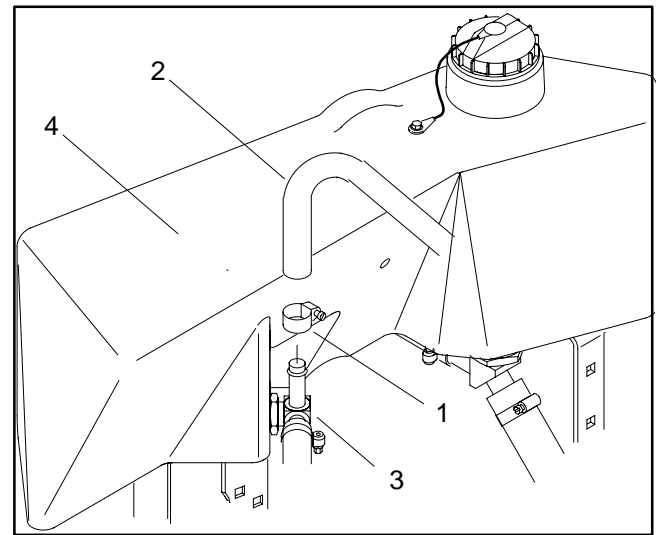

Figure 20
A. Loosen hose clamp (1) and disconnect hydraulic return hose (2) from the hydraulic fitting (3). Plug hose and fitting to prevent leakage and contamination (Fig. 20).